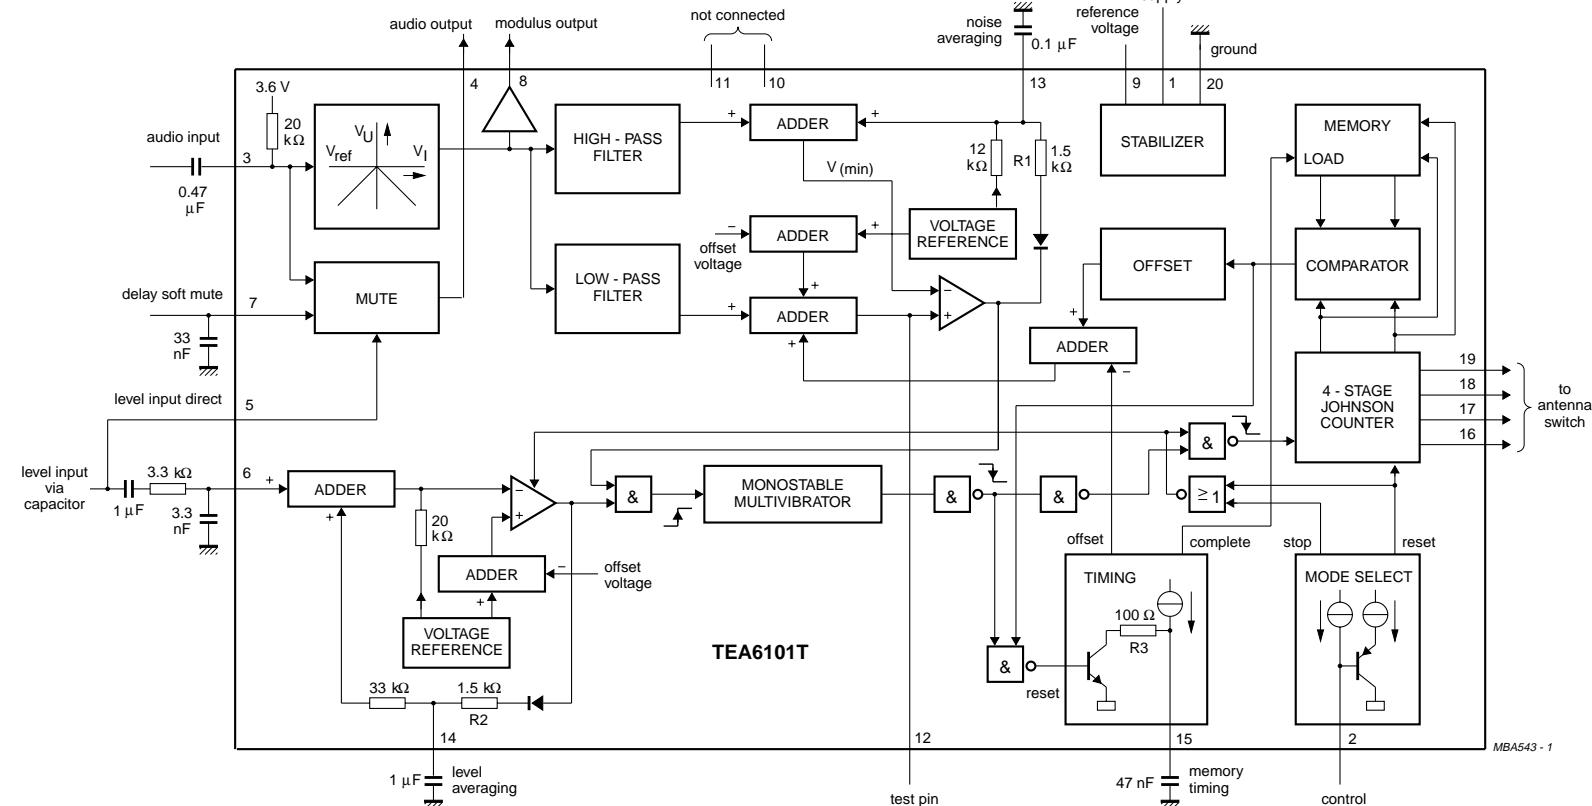

Fig.1 Block diagram.
A rectifier, high pass filter, low pass filter and a comparator are used to detect spikes and noise on the audio signal (see Fig.1). The negative spikes are detected by the rectifier whilst a high pass filter removes the audio signal to leave the high frequency signal components at the negative input to the comparator. The signal at the positive input to the comparator consists of an offset together with an audio signal attenuated by the low pass filter. If the amplitude of the spikes exceed that of the attenuated audio plus offset, the output of the comparator is HIGH.
Measurements using application circuit (Fig 1) at $T_{amb} = 25^\circ C$ and $V_P = 8.5$ V. Voltages with respect to pin 18 (20); pin numbers in parenthesis refer to TEA6101T; all currents positive into the IC unless otherwise specified.